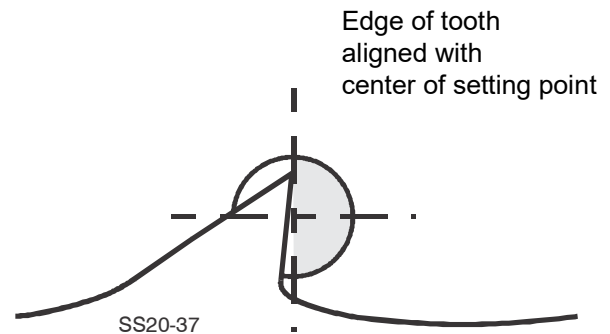
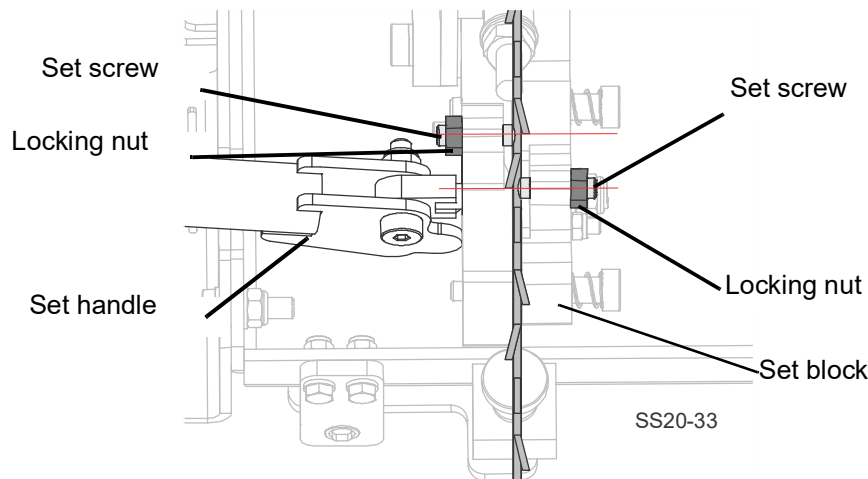

FIG. 3-11
FIG. 3-12
1. Adjust the blade in the Sharpener & Setter in the same manner as you would do for sharpening (See 3.6 Sharpening), aligning the blade on the set screws. See FIG. 3-11
2. Advance the blade until there is a left set tooth aligned with the left set screw as shown in See FIG. 3-11 and See FIG. 3-12 .